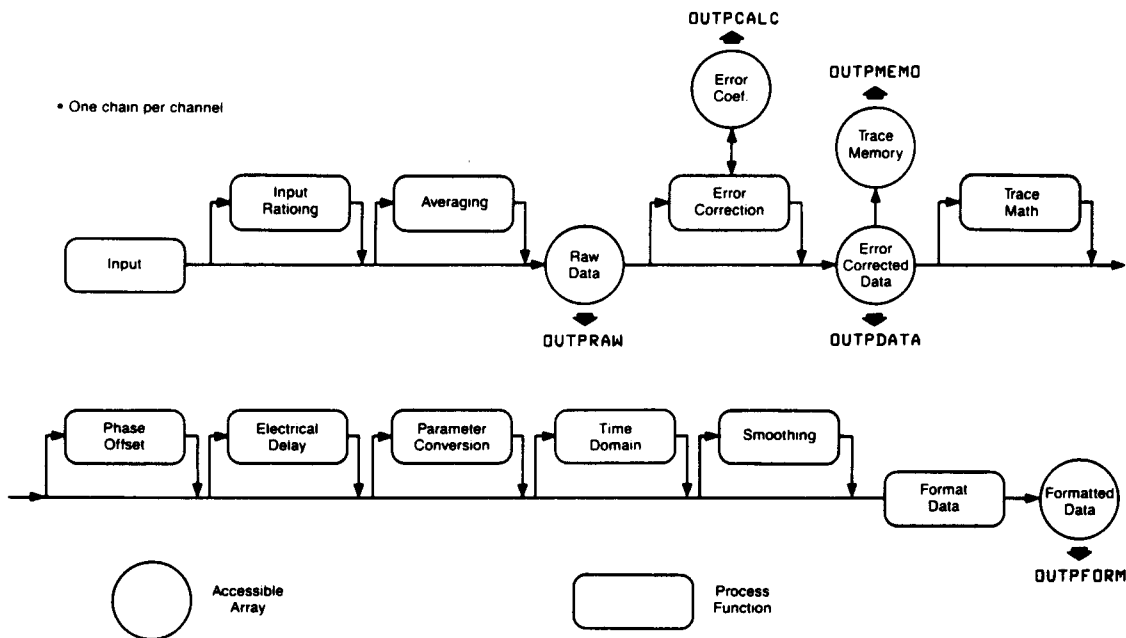

Figure 1. Data processing chain
2. Request the data from the network analyzer. For marker data, this is always done by the command `OUTPMARK`. For an entire trace, the desired data format and level must be specified. The analyzer can transmit data over HP-IB in five different formats, three of which are shown in the following example programs. The level of the data is determined by the `OUTPxxx` command used. (See Figure 1.) The different data levels are as follows: